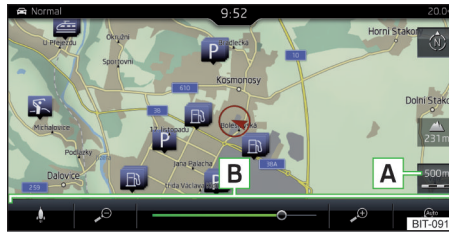
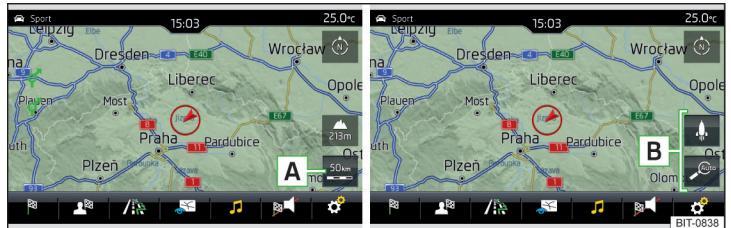

Fig. 222
Fig. 223 Function surfaces for changing the map scale: Infotainment Amundsen
- ▶ Tap on function surface **A** » **Fig. 222** or » **Fig. 223**.
In area **B** » Fig. 222 or » Fig. 223, function surfaces for changing the map scale are displayed.
- ▶ Tap the function surface **A** » Fig. 222 and use the slider or tap the function surface  /  in area **B** » Fig. 222 (applies to Columbus Infotainment).